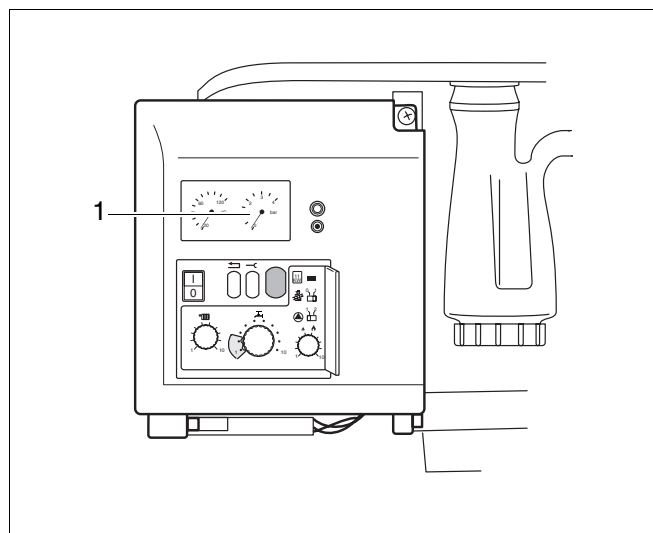

Fig. 1 Pressure display
- Check the water pressure (fig. 1, item 1).